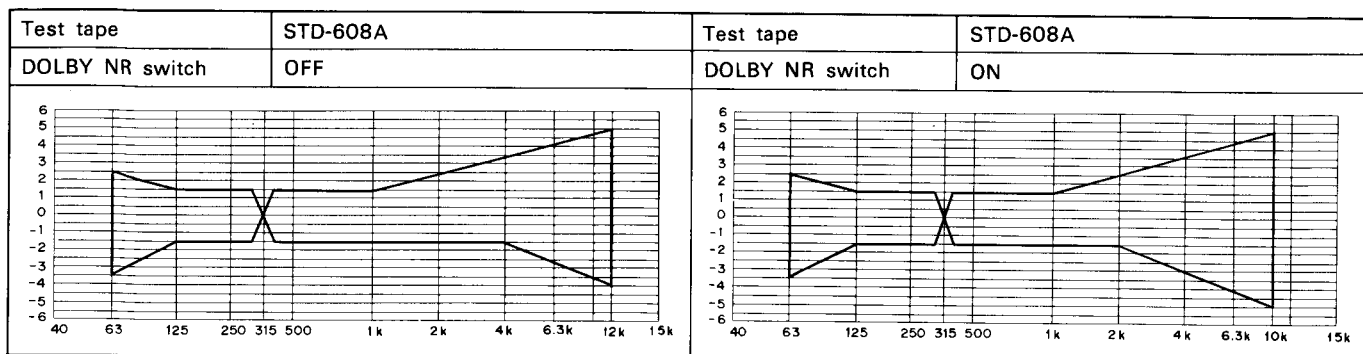

Fig. 12-8 Recording & playback frequency response tolerance zone (NORM)
- Change the test tape and the DOLBY NR switch position and check that the frequency response zone indicated in Fig. 12-8, 9 is satisfied.